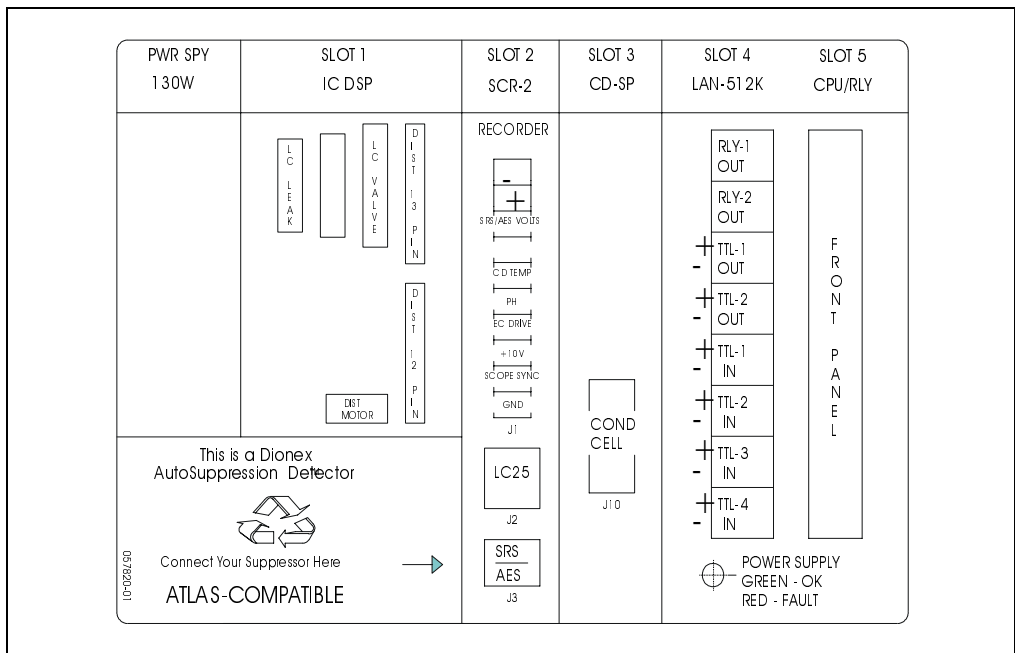

Figure B-7. Electronics Chassis
1. Route the cable from the injection valve through the IC25A upper chase and connect the cable to the **LC VALVE** connector in slot 1 (see Figure B-7).